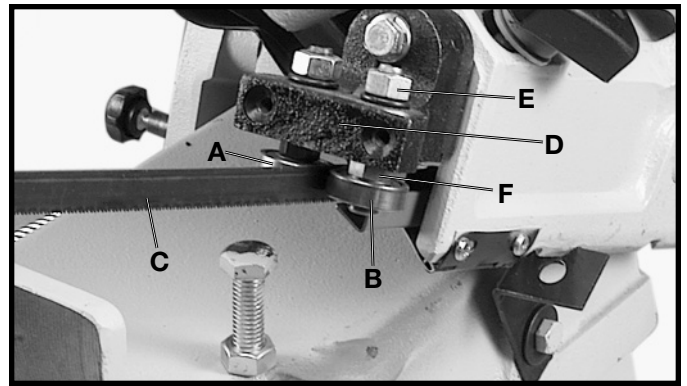

Fig. 20
1. The blade guide bearings (A) and (B) Fig. 20 should be adjusted so they just touch the sides of the blade (C) after the blade is tracking properly and the blade support bearing has been adjusted. To adjust, proceed as follows:
2. Remove the cover plate that is attached to the face of the right guide bracket (D) Fig. 20.
3. The inside guide bearing (A) Fig. 20, is mounted to a fixed shaft and cannot be adjusted. The outside guide bearing (B) is mounted on an eccentric shaft and should be adjusted so that the sides of the blade (C) just contact the guide bearings (A) and (B). To adjust, loosen nut (E) and turn adjusting nut (F) until proper adjustment is made. Then tighten nut (E).